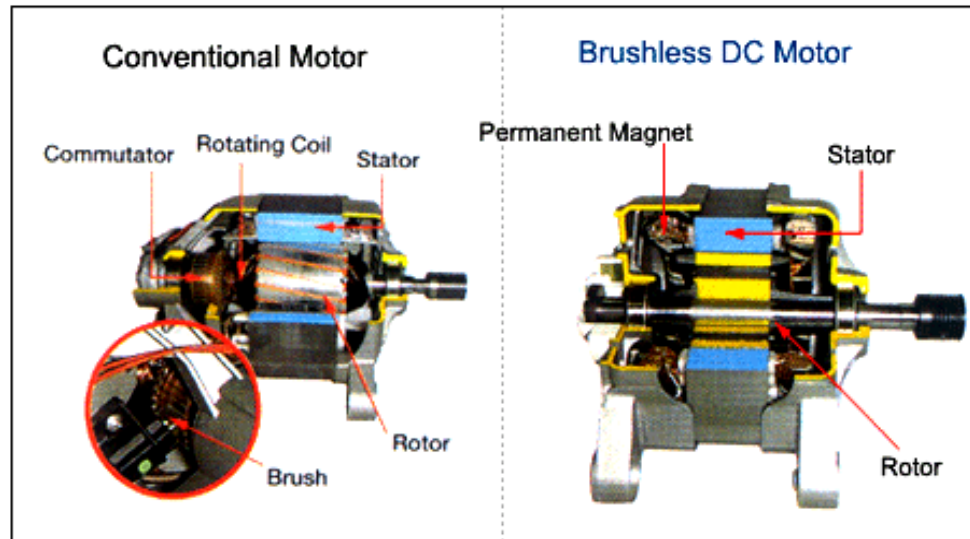

Figure 3.1
An electric motor is a machine for converting electrical energy into mechanical energy. Motors can be designed to run on direct (DC) or alternating current (AC). The motor shown in figure 3.1 is a DC motor. Its most important parts are the motor, the stator and the brush gear.
Complete the following diagram of the component of a DC motor using the information in the passage and figure 3.1
Describe the following components are located using the information in the passage and the figure 3.1